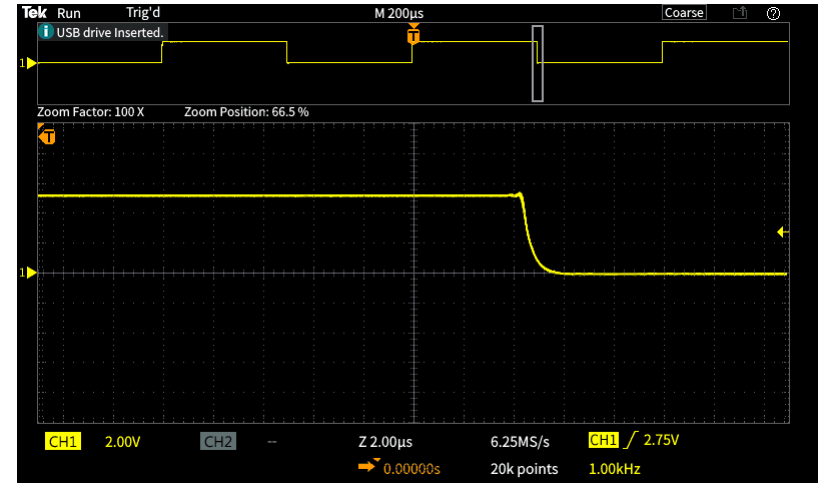

Figure 9. Zoom in details on the falling edge
7. Adjust the Horizontal **Scale** knob to 200us, and use the **MPK** to zoom in on the falling edge detail. Adjust position if needed (Figure 9).